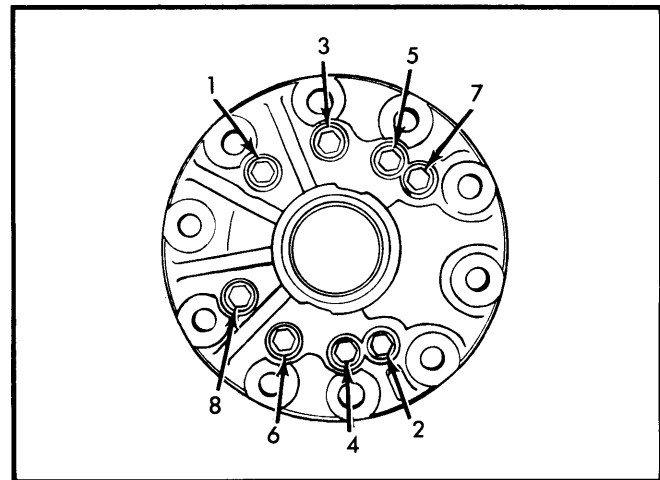

Fig. 4 Cap to Flange Bolt Torquing Sequence
2) Insert five springs and spring block into case. Install second cone/gear assembly face down on spring block so that gear will mesh with pinion gears. Place flange half over cone and install bolts finger tight. Torque bolts one turn at a time in sequence shown in Fig. 4 to 30 ft. lbs.